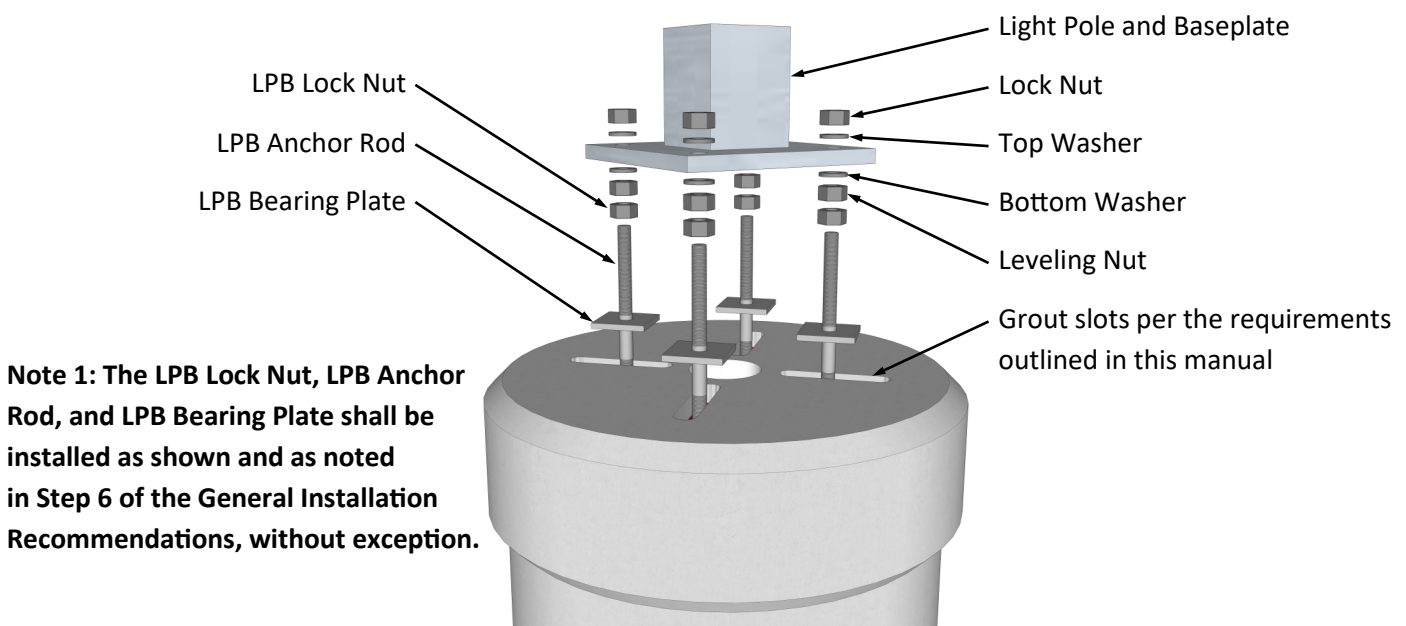

Figure 1: Recommended LPB Bolting Diagram
- Figure 1 below, is a recommended bolting diagram that should be followed in the absence of guidance provided by the light pole manufacturer. Any guidance or requirements provided by the light pole manufacturer shall supersede the guidance in Figure 1, except as stated in Note 1 below.
1. The light pole and base plate should be installed using the Recommended Bolting Diagram, previously shown in Figure 1 on page 5, in the absence of guidance provided by the light pole manufacturer. Any guidance or requirements regarding bolting from the light pole manufacturer shall supersede those shown in Figure 1, except as stated in Note 1 of Figure 1.